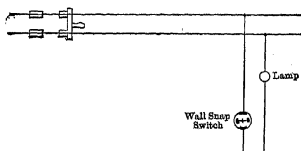

FIG. 160. The lamp is controlled from a single wall switch:
86. The Control of Incandescent Lamps. Fig. 160 represents the ordinary wiring of a lamp when it is desired to turn it off or on from a single wall switch.